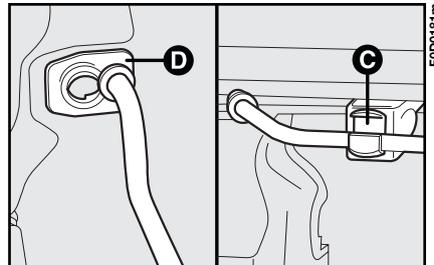

fig. 135
- Release the support rod from its clip **C**-fig. 135 and insert it in recess **D** in the bonnet.
1) hold the bonnet up with one hand and, with the other, remove rod **fig. 135** from recess **D** replace it in its clip **C**;